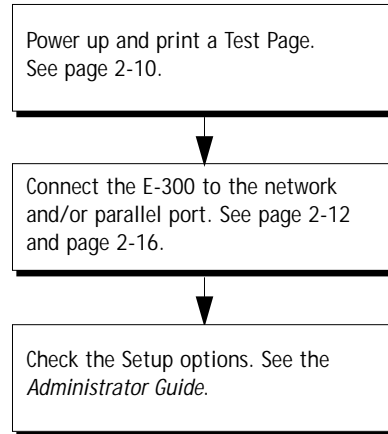

FIGURE 4-13 E-300 connection verification steps
7. Before you leave the customer site, verify E-300 operation (see Figure 4-13 on page 4-25).